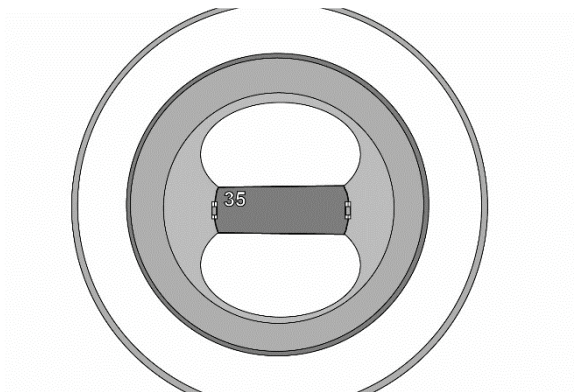

Fig. 14: Restriction plates
6. Place the restrictor plate into the slots on the inside of the flue opening (see Fig. 14).